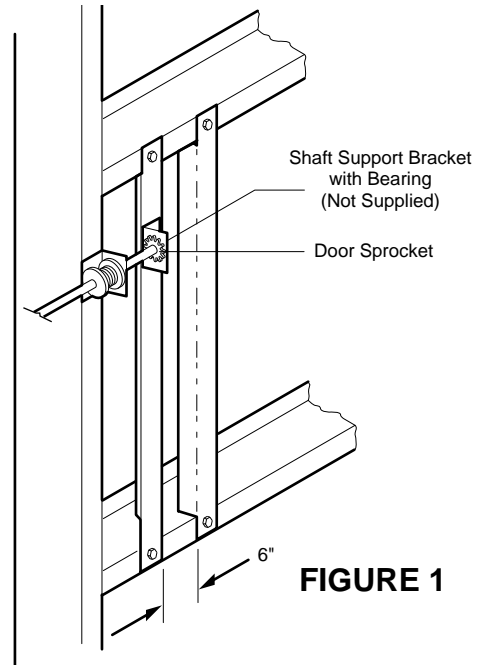

FIGURE 1
2. For metal buildings, fasten 2"x2"x3/16" (or larger) angle iron frames to the building purlins. Retain 2-1/4" between frames. See Figure 1.
**NOTE 2:** For standard rolling steel doors, install operator as shown in Figure 3. (If mounting to a steel building, make an angle iron mounting frame as shown in Figure 1.)